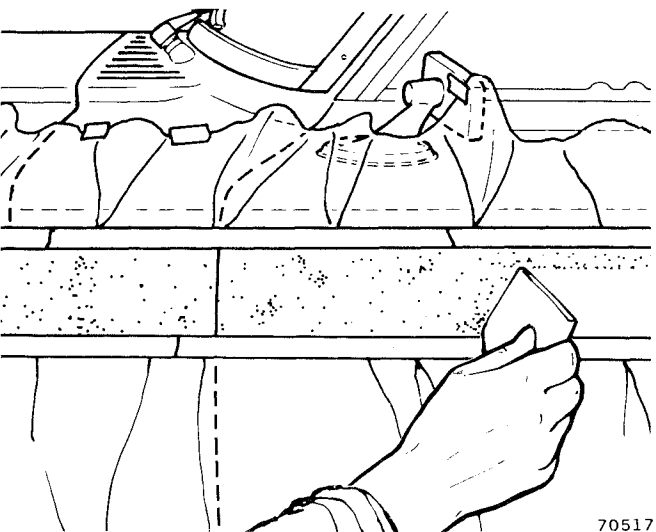

Fig. 3P-22 Using Squeegee to Remove Adhesive Residue
(10) After five minutes, use squeegee to remove adhesive residue (fig. 3P-22).